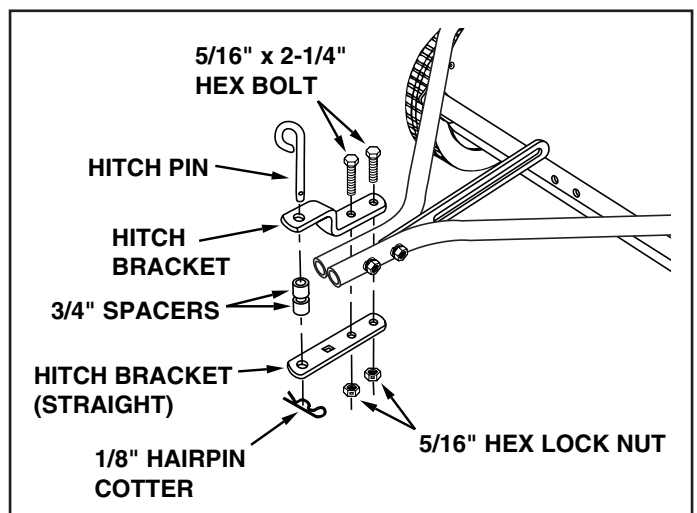

FIGURE 3
4. Assemble the bent hitch bracket on top and the straight hitch bracket to the bottom of the hitch tubes. Fasten with two 5/16" x 2-1/4" hex bolts and 5/16" hex lock nuts as shown in figure 3. The bolts should straddle the front hitch tube bolt. **Do not tighten yet.**
6. Assemble the hitch pin, two 3/4" spacers and the 1/8" hairpin cotter to the hitch brackets. See figure 3.